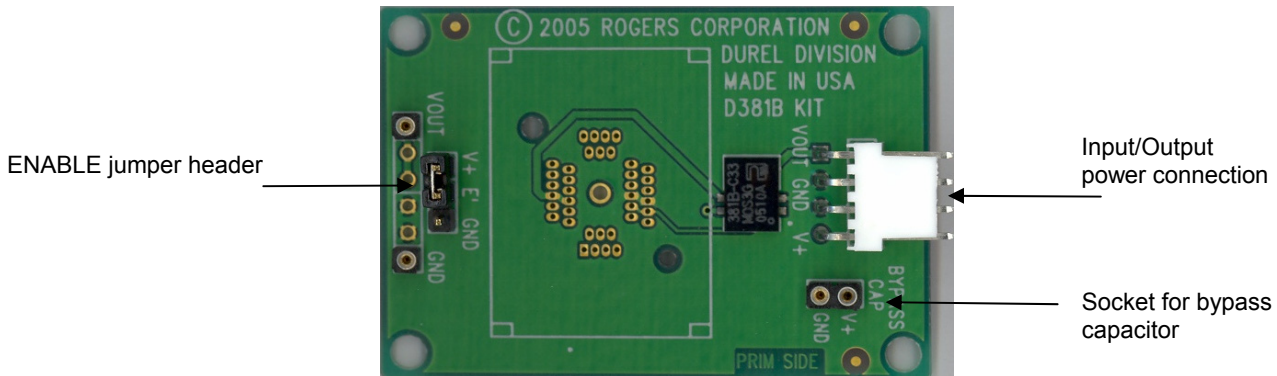

Figure 1: The D381B Module IC Designer's Kit Board
The Designer's Kit Board (see Figure 1), which comes with a D381B Module IC already soldered to the board, is a useful tool for powering a D381B Module IC driver circuit for any application. A jumper header on the Designer's Kit Board is normally attached to connect E to V+ or GND. This jumper header can be removed to control the enable pin (E) with an externally supplied signal. Make sure that an appropriate load is connected between the output (Vout) and GND before applying power to the chip through the Designer's Kit Board power connections.